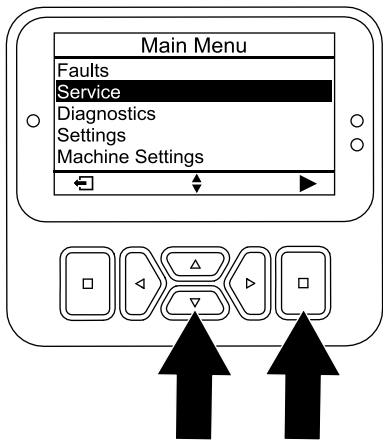

Figure 95
4. Press the down button until the SERVICE option is selected, then press the select button (Figure 95).